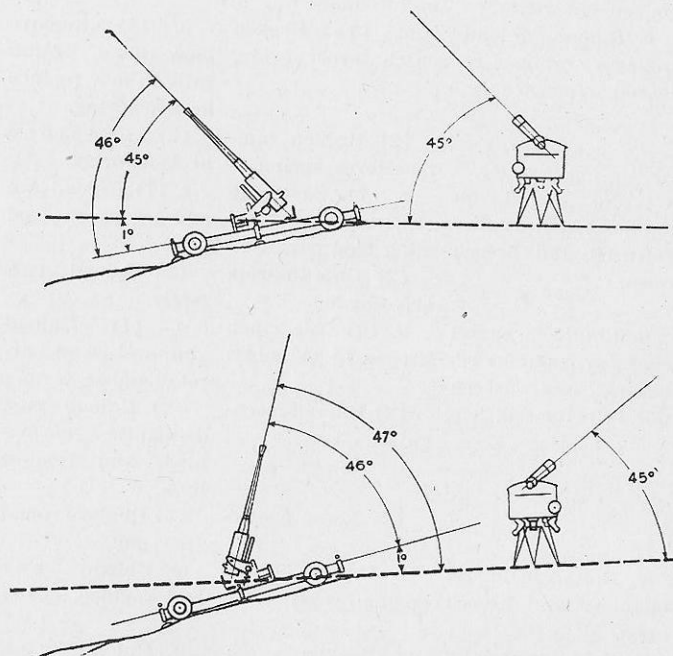

FIGURE 38.—Importance of precise leveling. (Note how an error in leveling of 1° may cause an error twice as great in orientation.)
- (1) See that striker cover is flush with breech and properly locked with slot vertical. (Arrows must be matched.)
- (2) See that loading tray bolt is flush with breech ring and properly locked with slot vertical. (Arrows must be matched.)
- (3) See that tapered pins in cylinder catches are fully home in correct position.
- (4) See that rollers on ends of feed pawl rod are in position.
- (5) See that all springs are working correctly, especially springs operating three check levers in base of automatic loader.
- (6) See that no obstruction is preventing check levers from working.
- (7) See that split pin and bolt are replaced in upper part of cartridge deflector tube.
*b. Gun level (false zero).—*Check to see that gun is properly leveled. (See fig. 38.) If gun leveling tubes prove to be out of adjustment proceed in following manner:
- (1) Use one leveling tube to level gun if one or both level tubes are out of adjustment.
- (2) Place leveling tube parallel to line between two jacks and bring bubble to center.
- (3) Rotate gun through 180°. If bubble moves off center return it halfway to center using leveling jacks.
- (4) Place leveling tube in line with alternate sets of leveling jacks in turn and continue successive half-corrections toward center until error in bubble position from center of vial remains unchanged. This false center of bubble is called the "false zero", and gun is level at this point.
- (5) At first opportunity refer gun to ordnance or qualified battery specialist for adjustment of leveling tubes.